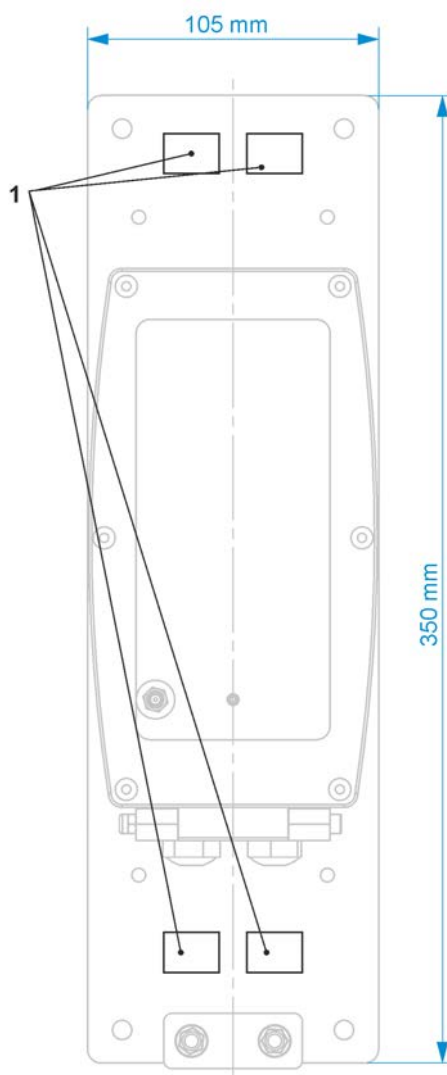

Fig. 24-2 Fastening on a mast using hose clamps (Ex and non-Ex)
- Enclosure rear panel mounted on a mounting plate (3 mm thick); mounting plate fixed to a mast (see Fig. 24-2) with clamps (openings see Fig. 24-2 Pos. 1)